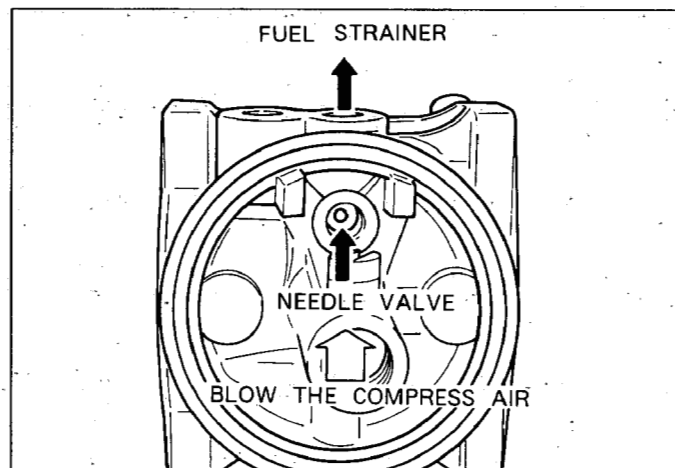

Fig. 29
- (1) Remove fuel strainer from body.
- (2) Remove float chamber from body.
- (3) If needle valve is held open, disassemble float and clean needle valve and fuel line in kerosene and blow the remainings with compressed air. (See Fig. 29.)
- (4) Clean fuel strainer in kerosene.
- (5) Attach needle valve and float to body.
- (6) Attach float chamber to body.